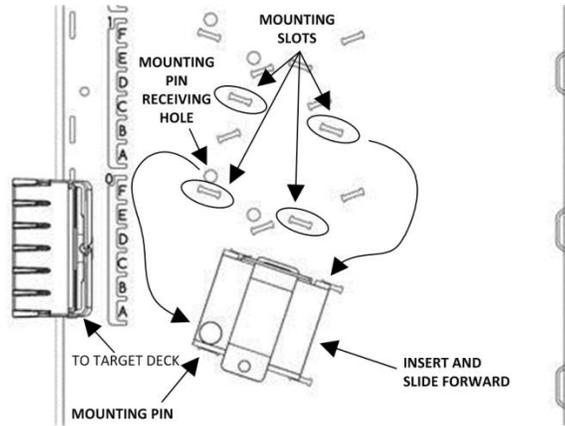

Figure 22
5. Mount the cable clamp to the Frame by inserting the clamp base at the desired location and sliding until the mounting pin engages the hole (Figure 22).